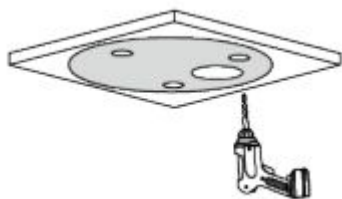

Figure 2-1
**Step 1** Use the included installation position map and place it on the mounting surface according to the location cable exit. The camera supports side and mounting surface cable exit. Drill holes on the mounting surface following the instructions on the installation position map. See Figure 2-1.